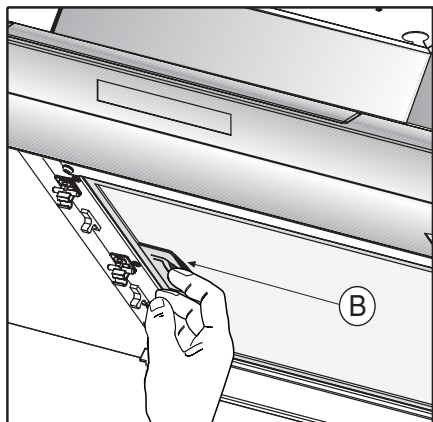

Fig.6
- Before starting to fix the hood, disconnect the anti-grease filter **B** (Fig.6) for easier appliance handling.
Pull handle **B** as shown in Fig.6.